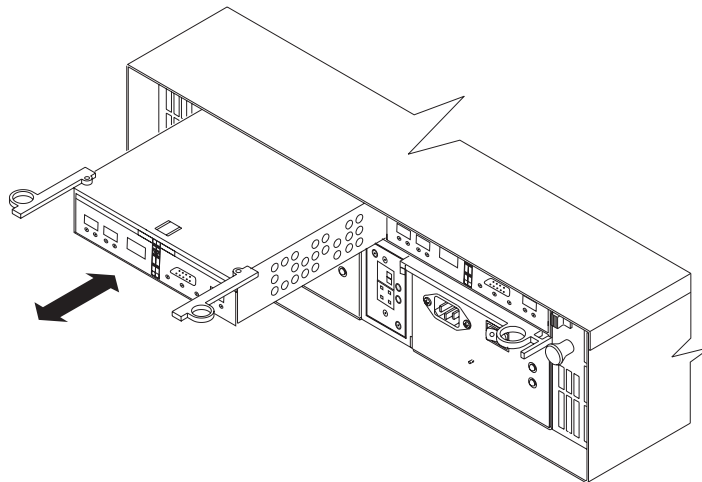

Figure 52. Pull-rings for removing a controller
- b. Grasp the pull-rings (see Figure 52), then pull on the levers and remove the RAID controller.